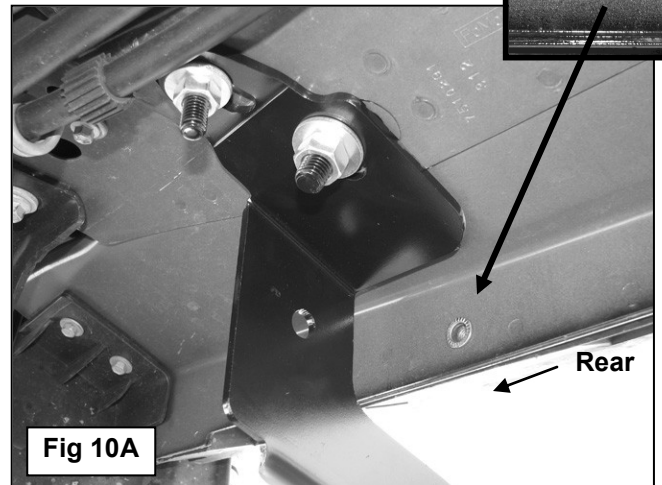

Fig 10A
10. Remove the Support Bracket. Carefully drill this location with a 7/16" drill bit, (Figure 10A). IMPORTANT! Be very careful and drill slowly through the pinch weld to avoid damaging the outer rocker panel cover. Any cutting or drilling tool may break or shatter. Government regulations require safety glasses & equipment at all times when cutting or drilling.